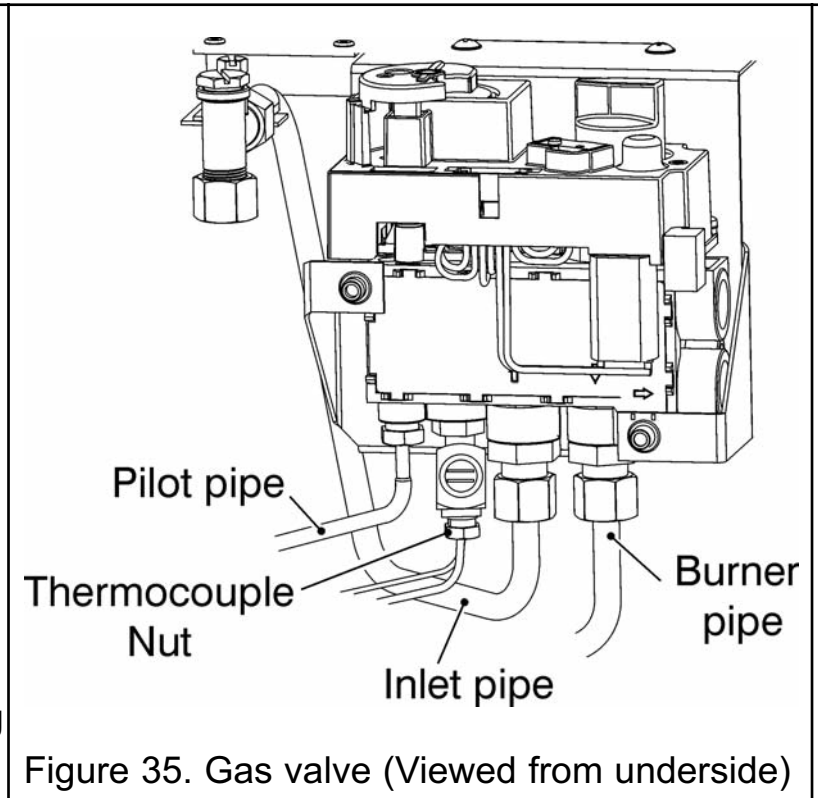

Figure 35. Gas valve (Viewed from underside)
4. Detach the thermocouple by unscrewing the thermocouple nut at the interrupter block (See figure 35).
(See figure 35).